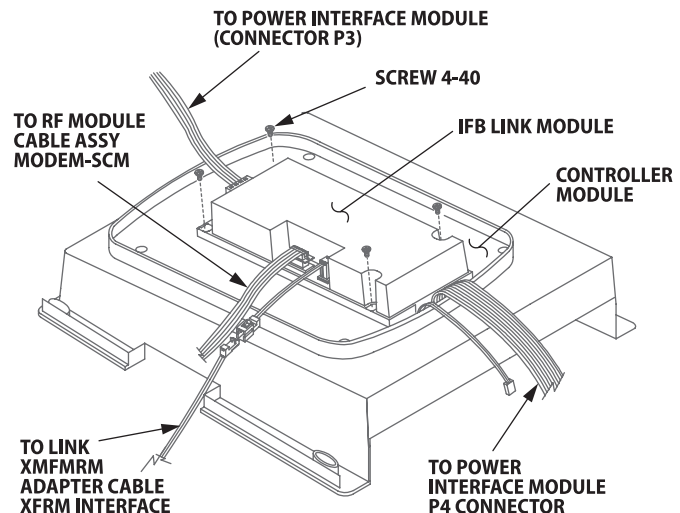

Figure 10
2. Use four #4-40 machine screws to attach the +LINK Interface Board module to the bottom of the control module (see Figure 10).